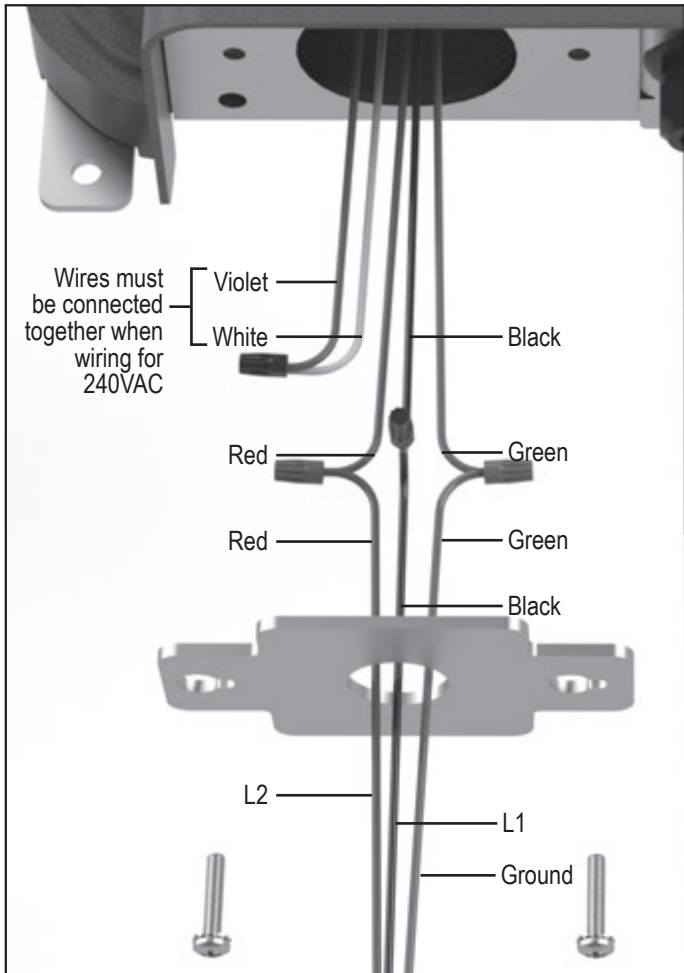

Figure 4. Wiring with a 240 VAC Filter Pump
1. Wire power pack to pool pump power source using 3.3 mm² (12 AWG) insulated wire and conduit. Wire the power pack to the LOAD side of the filter pump or the LOAD side of the pool pump timer relay so that the chlorinator can only come on when the pool pump comes on (see Figure 4 for 240 VAC and Figure 5 for 120 VAC).
5. Make the wire connections. Note: The green wire should be connected to the ground point. (see Figure 4 for 240 VAC and Figure 5 for 120 VAC).